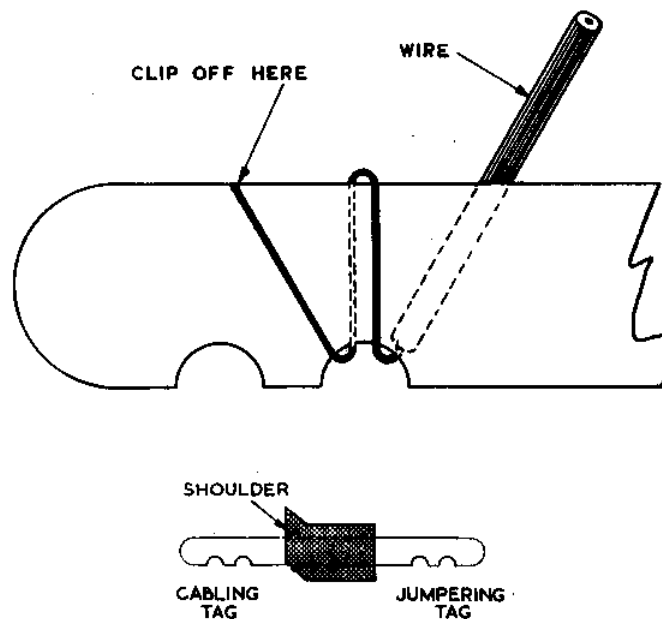
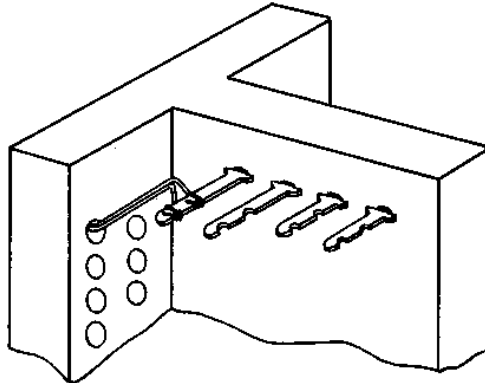

FIG. 3. TERMINAL STRIP TERMINATION.
FIG. 4. WIRES ON A TERMINAL STRIP.
- (i) Textile covered wires, remove the enamel and covering from where the wire takes its first bend around the tag (see Fig. 3).
- (ii) P.V.C. covered wires, (not enamelled) remove the covering from where the wire takes its first bend around the tag. (See Fig. 3.)
Terminal Strips (I.D.F. Type) Wiring. Fig. 3 shows the terminating method. Fig. 4 shows how the wires fit snugly into the shape formed by the mounting base and the blocks; to do this a forming rod is used. The rod is placed over the wires, before connecting to the terminals and pressed into the angle formed by the mounting base and the terminal blocks. The wires are then drawn tightly up to the terminals and looped resulting in the desired form when the rod is removed.
The loop is formed around the notch nearest the block. The remaining notches are used in the installation of the equipment and terminated as in Fig. 3.